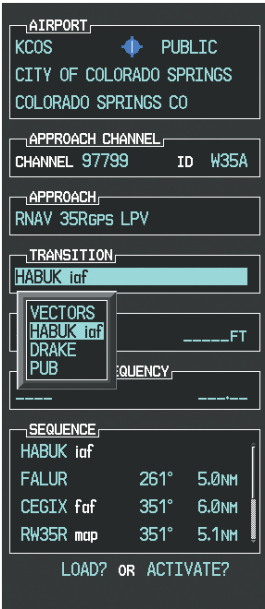

Figure 7-32 List of Available Transitions
- e) Press the **ENT** Key. A list of available transitions for the selected approach is displayed as in Figure 7-32.